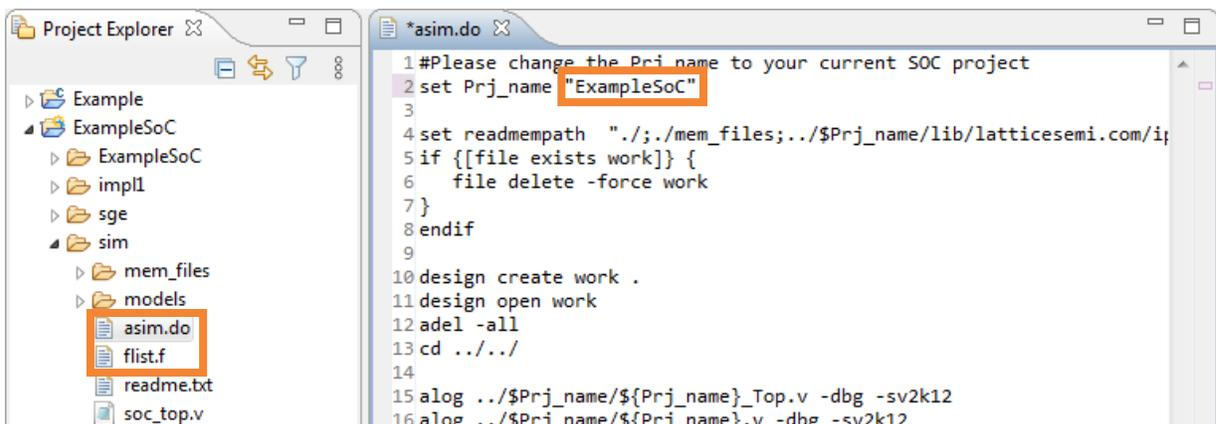

Figure 3.22. Update asim.do
- From the Project Explorer pane on the left, double-click asim.do from the models subfolder under the sim folder. The asim.do file is opened in a text editor on the right pane. Change the variable *Prj_name* to the current project name in the asim.do (Figure 3.22.) file. Save the file.